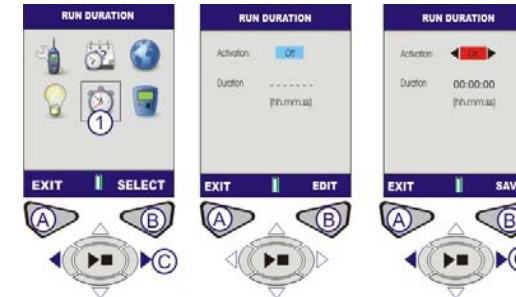

Figure 6 Run Duration
RUN DURATION (Refer to Figure 6 and 7)
CEL-620A and CEL-620B – The "Play" symbol is displayed in the top left hand corner of the screen. The "Pause" symbol is in the bottom left hand corner of the screen. The left hand Soft Key (A) is the PAUSE/RUN feature. When Pause is selected, 'PAUSED!' will be displayed on the screen. The incremental run number and duration are always in the top right hand corner of the screen. If the Run Duration Timer is set, a 'stopwatch' icon will appear next to the countdown timer. The Run Duration timer is enabled and disabled in SETTINGS (Refer to Figures 6 & 7). If the Run Duration is not set, the digital timer will count up until the run is stopped manually (by pressing D).